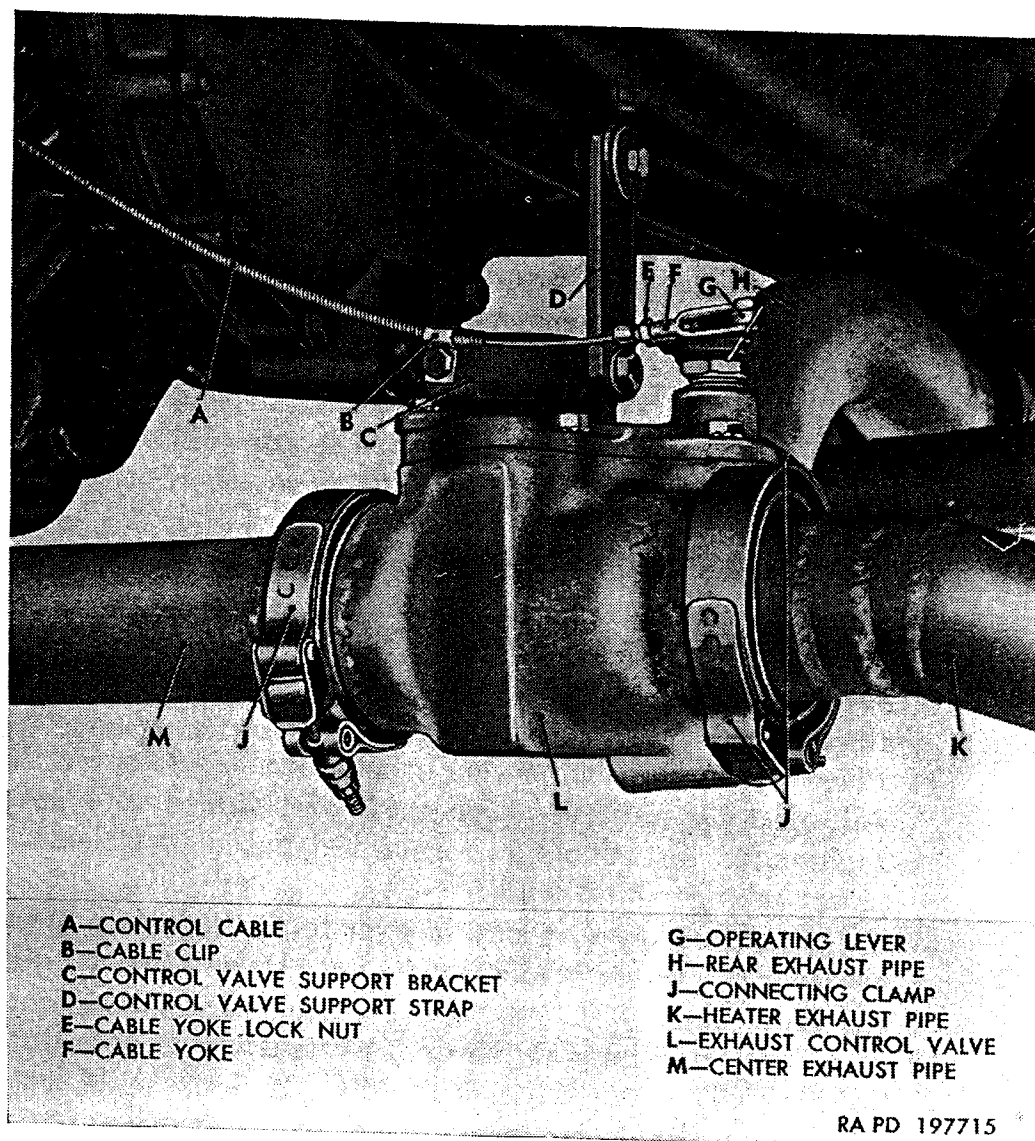

Figure 379. Exhaust control valve installed.
(1) Removal.
- (a) Remove cotter pin and clevis pin attaching control cable yoke to control valve gate shaft operating lever (G, fig. 379).*
a. General. Exhaust control valve is a lever-operated gate-type valve having one inlet and two outlets. Valve is connected into engine exhaust system as shown in figure 379, and is supported from the transmission rear support member by a support strap and support bracket. Inlet side of valve is connected to exhaust pipe from engine exhaust manifold. One outlet opening is connected to rear exhaust pipe leading to exhaust muffler; the other outlet is connected to pipe leading to water tank heating chamber. The valve gate, integral with shaft,
b. Removal (fig. 379).
- (1) Remove center exhaust pipe (M) (par. 347c(1)).
- (2) Open connecting clamps (J) attaching rear exhaust pipe (H) and heater exhaust pipe (K) to exhaust control valve (L), and slide clamps into pipes.
- (3) Remove cotter pin and clevis pin attaching cable yoke (F) to control valve gate shaft operating lever (G). Remove cap screw attaching cable clip (B) to control valve support bracket (C).
- (4) Remove nut, cap screw, plain washer, and spacer securing control valve support strap (D) to support bracket (C).
- (5) Work control valve assembly loose from rear exhaust pipe
Note. The key letters in parentheses are in figure 379, except where otherwise indicated.